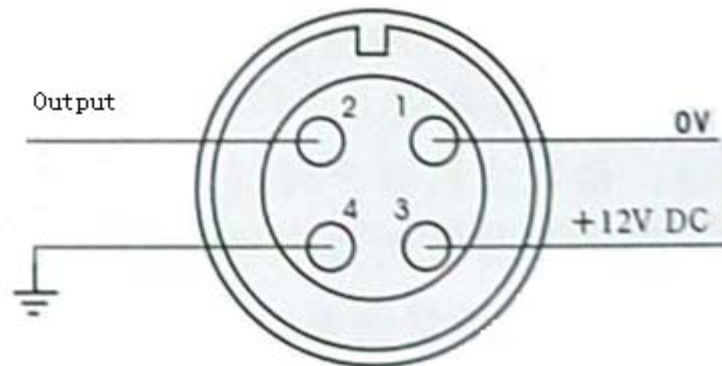

Fig.11 LWF-T Wiring Terminal
- (1) Installation: Attach it to the Sensor Housing by hand- screwing it into the Housing connecting seat with M14x1 threads, and then fasten the lock-nut properly;
- (2)Wiring: For Output Signal transmission, 3-core-metal-shielded cable shall be used with metal shield connecting to the ground; terminals in plug refer to Fig.11 (also see the label on the amplifier)
- (3) Be sure, when using shielded cable, one point (terminal) being grounded only; normally such one point (terminal) is arranged at the place where Flow Totalizer is located;
- (4) Prevent the output signal cable from being disturbed by the AC power noise; and keep it away from the power loop;
- (5) The Turbine Flow Sensor usually has to be working with the Flow Totalizer, so another end of the signal cable needs to be connected to Totalizer; therefore, it is also necessary to make settings on Totalizer such as Pulse equivalent, Flow unit, operation status etc. please carefully refer to the Totalizer Instruction Manuals in doing so;